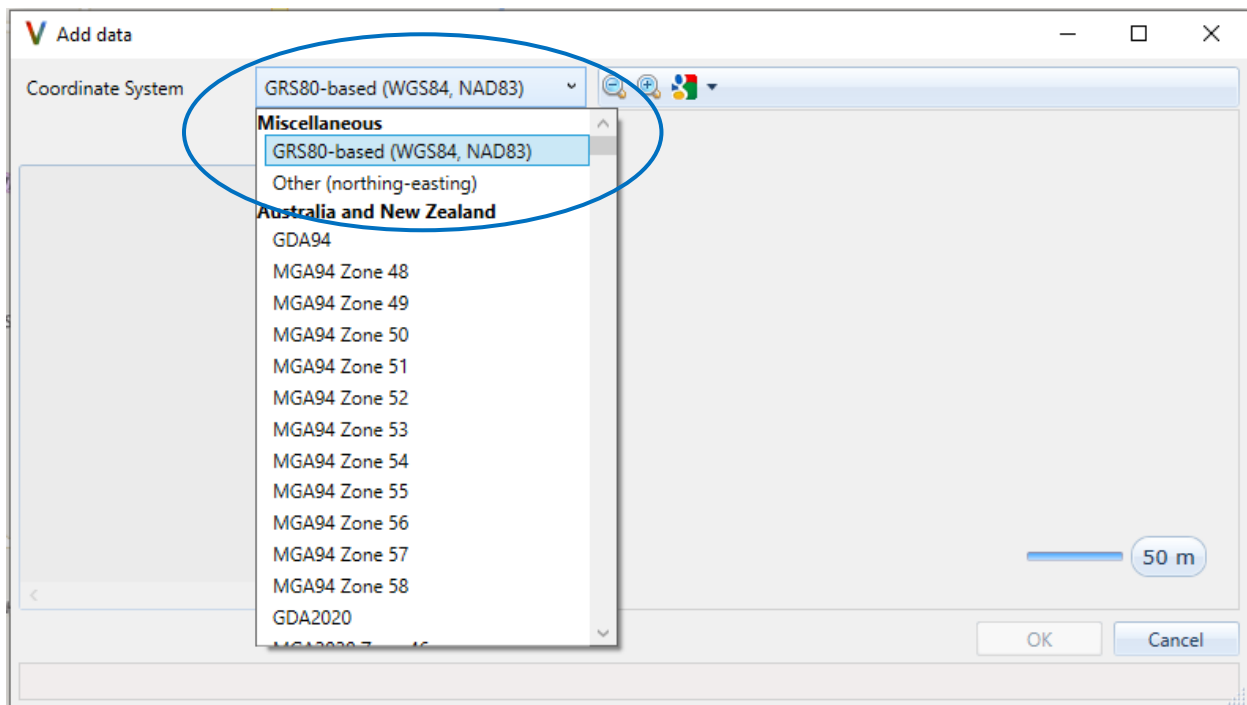

Figure 5. Add data window. Select the correct coordinate system before importing data.
3. Verify the auto-detected GPS coordinate information. Correct or enter any missing information for the coordinate system and units (if applicable). All supported coordinate systems can be found in the drop-down menu, as shown in Figure 5. Supported coordinate systems include:
Opening data files directly instead of creating a new project is (slightly) more efficient when using manual data import options. Another option is simply to drag-&-drop data files from File Explorer to the Veta software. This automatically launches the data import wizard illustrated in Figure 5.